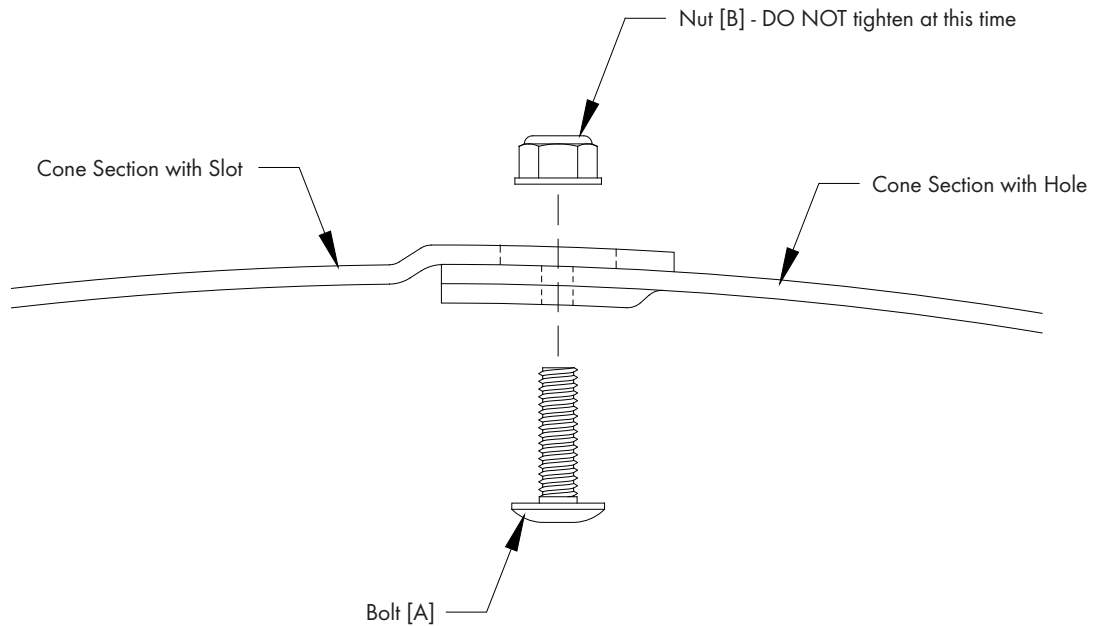

Figure 3
Join Cone Sections together by installing (4) Bolts [A] through holes and into slots at each joint and secure with Nuts [B]. See Figure 3. DO NOT tighten bolts at this time.